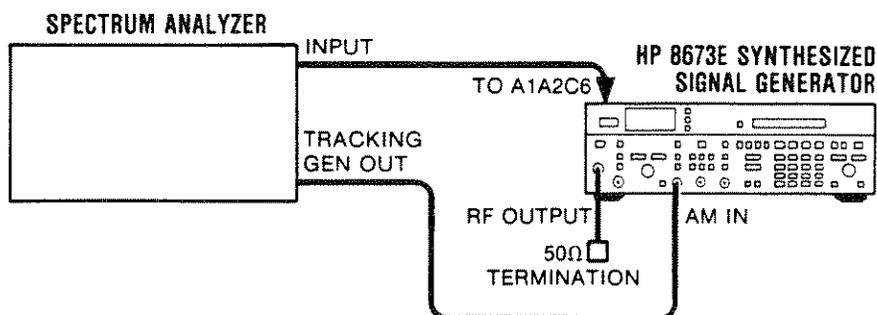

Figure 5-29. AM Bandwidth Adjustment Test Setup
1. Connect the equipment as shown in Figure 5-29.